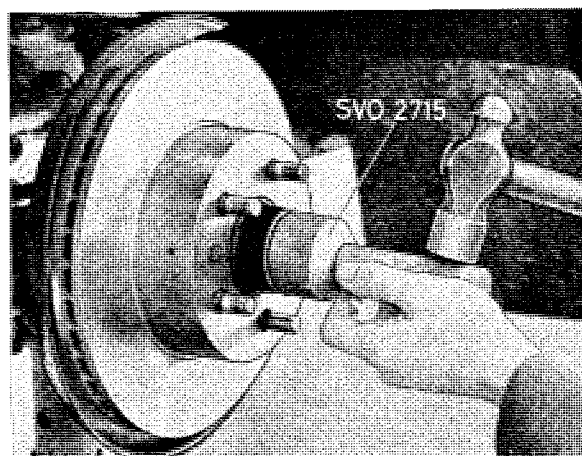

Fig. 7-29. Removing grease cap
4. Remove the grease cap with tool 2715 (Fig. 7-29). Remove the split pin and castle nut. Pull off the hub